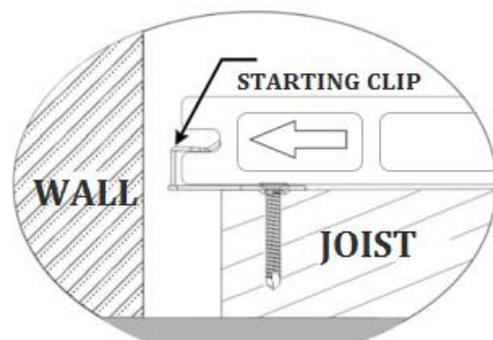

Figure 6
2. Screw the starting clip with the stainless steel screw provided as shown in the diagram Figure 6.